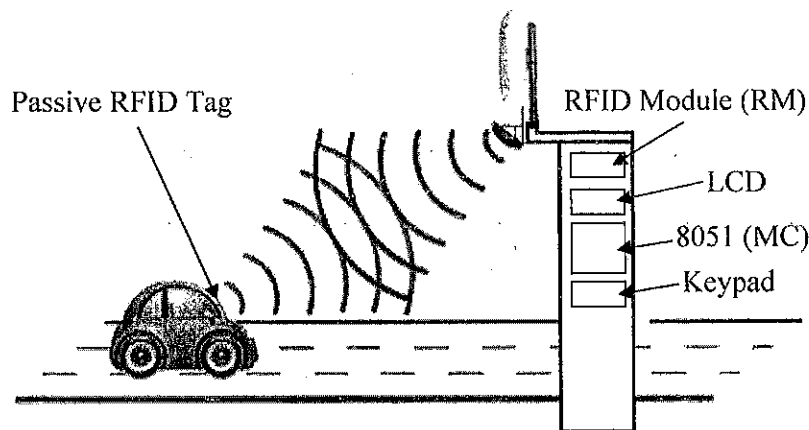

Figure 1: Typical view of EPR
You are required to analyse and design the requirements of the *EPR* (Figure 1) given below according to the 8051 microcontroller specifications.
Figure 1 shows the major components of the EPR. The EPR consists of a RFID module (RM) which is connected to the RFID antenna, a LCD, a Keypad and a 8051 microcontroller (MC). The RM has a Start Of Reading signal (SOR), End of Reading (EOR) signal, and DATA buffer (char (24)). MC needs to give low to high pulse to SOR in order to activate reading the RFID tag of the vehicle. Once the SOR signal has been sent, MC needs to wait until EOR signal is available to read the tag data (EPC). EOR signal will change high to low after RM reads the RFID tag of the vehicle and ready to send the tag data (EPC). After EOR signal becomes available, MC can read the RFID tag data from the DATA buffer of the RM via serial communication. A passive RFID tag includes EPC memory bank, which holds the char (24) EPC code (3575BCD15BC614E000000001).